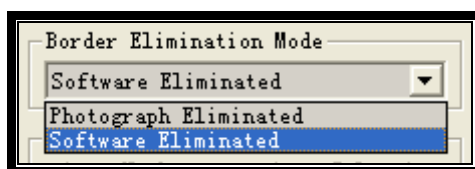

Fig.3-32
Step31: Observe the screen, after the cabinets of the whole screen have been corrected one by one, border may be appeared between cabinets. Click the drop-down option in the frame of **Corrected Intensity** and choose “Software Eliminated” option, as shown in fig.3-32.